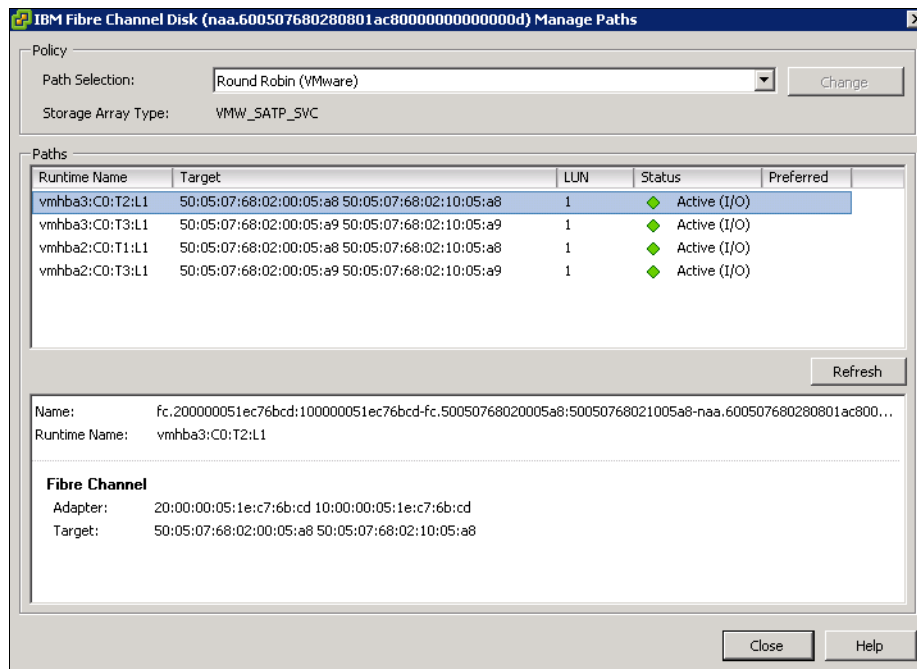

Figure 12-44 Select a data store multipath setting
8. Click **Manage Paths** to customize the multipath settings. Select **Round Robin** (Figure 12-44) and click **Change**.